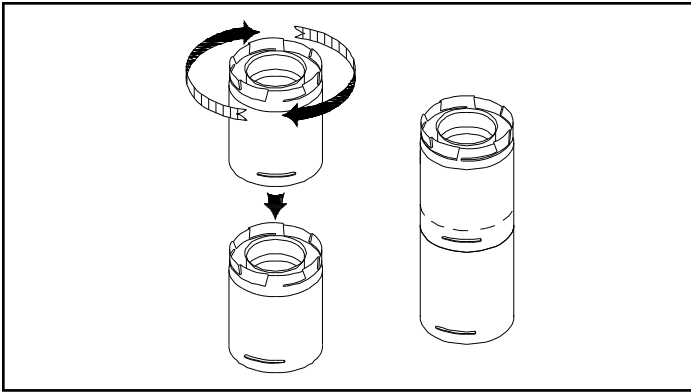

Figure 3.24
1. Twist-lock procedure: Line up locking lugs on male and female ends of pipe sections. Insert the male end of pipe into the female end until the locking lugs are covered. Twist the female end clockwise an eighth of a turn to lock sections together, Figure 3.24. Screws are not required to secure the joint, but are acceptable provided they do not penetrate the inner wall of the vent pipe.